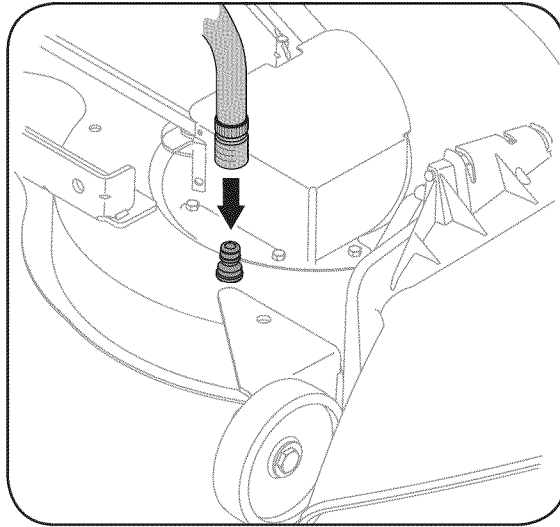

Figure 21
4. Attach the hose coupler to the water port on your decks surface. See Figure 21.